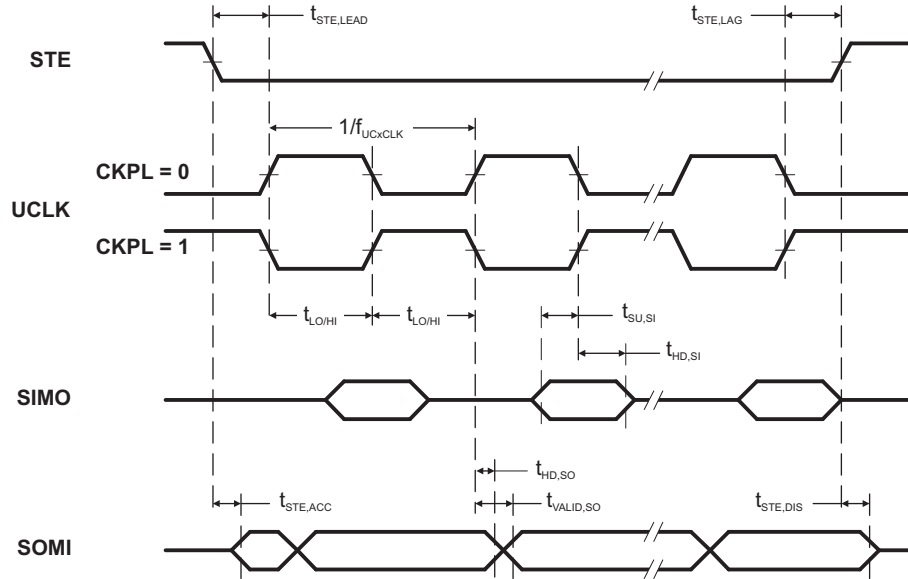
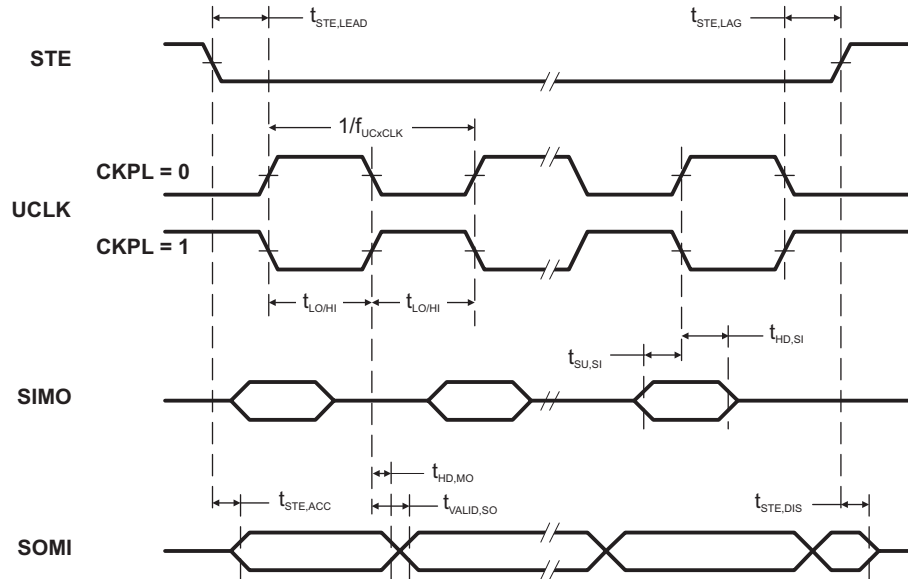

Figure 16. SPI Slave Mode, CKPH = 0
Figure 17. SPI Slave Mode, CKPH = 1
(see Note (1), Figure 16 and Figure 17)
(2) Specifies the time to drive the next valid data to the SOMI output after the output changing UCLK clock edge. See the timing diagrams in Figure 16 and Figure 17.
(3) Specifies how long data on the SOMI output is valid after the output changing UCLK clock edge. See the timing diagrams in Figure 16 and Figure 17.